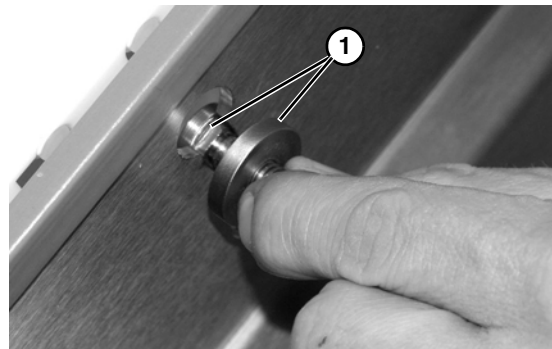

Figure 37
1. Insert carriage bolts with spacers (Figure 37, item 1) into slotted holes in conveyor side.